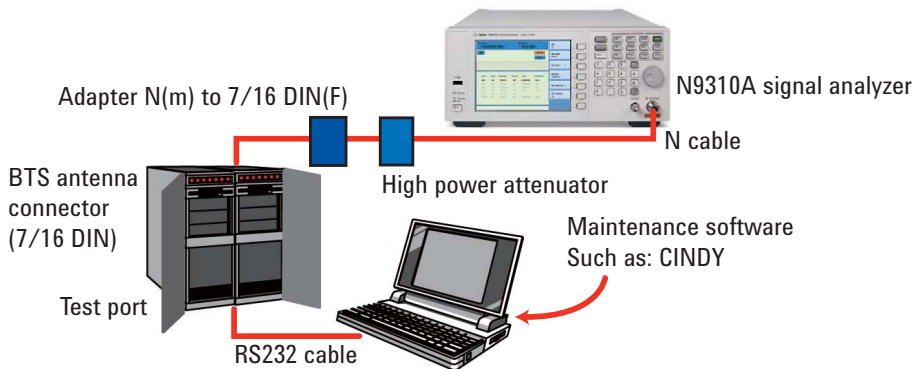

Figure 1. System connection
1. Connect the calibration system as shown in Figure 1.